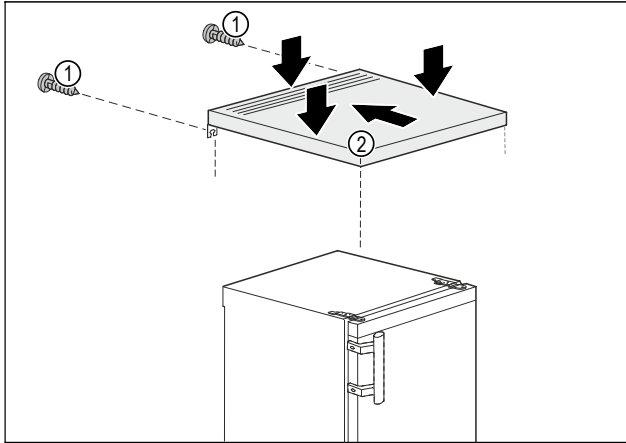

Fig. 4
- ▶ Place the table top Fig. 4 (2) on the appliance.
- ▶ Push the table top Fig. 4 (2) backwards.
- ▶ Press the table top Fig. 4 (2) down at the back.
- ▶ Tighten the screws Fig. 4 (1) on the rear end.
- ▶ The table top Fig. 4 (2) has been fitted.